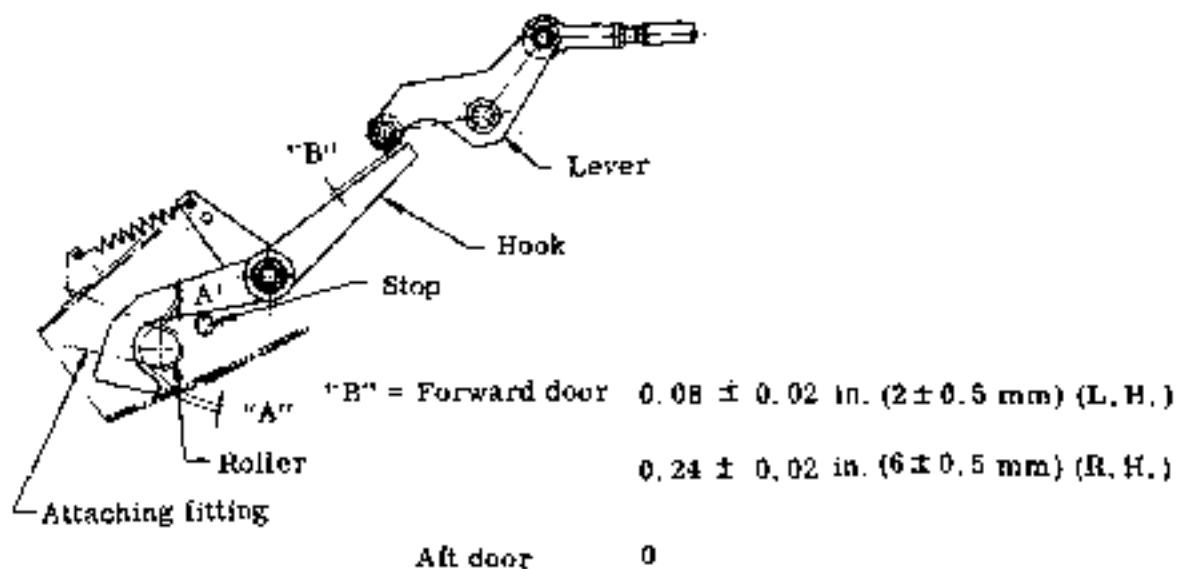

Fig. 4-37 Adjustment of lock mechanism
3.9.2.3 ADJUSTMENT OF MAIN LANDING GEAR DOOR LOCK MECHANISM (See Figs 4-37 and 4-38)